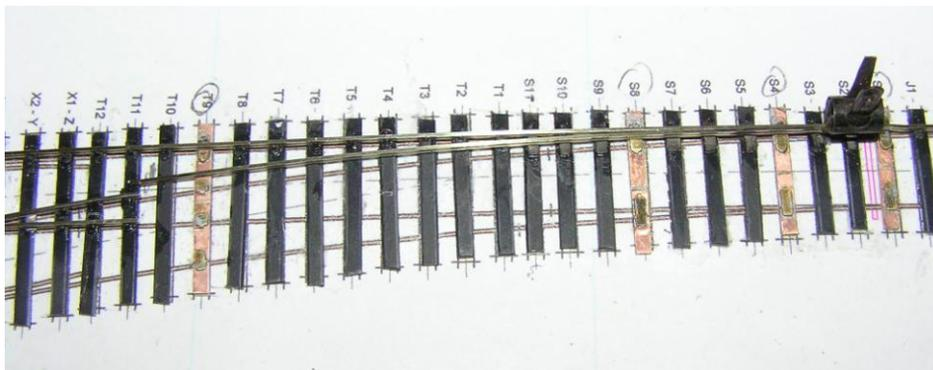

Fig 10 The curved switch rail held in position by the bulldog clip first to determine the correct length and then for fixing the chairs.
12. You can now fix the switch in position using the pre-set dividers to ensure that it follows the line of the template and that there is a smooth transition from the crossing rail to the switch. You may find it helps to use a miniature bulldog clip at the tip of the switch as you make the first fixings, fig 10. Start at the crossing end making sure that the transition from the crossing to the switch rail is smooth. Make sure that the end of the switch rail does not touch the crossing rail. The chairs nearest to the toe will probably need trimming slightly as there will not be enough room for two full chairs as the rails come closer together. On the prototype the chairs here would be on smaller square bases.
2. Cut the timbers to length using a craft knife. Work from both ends at the same time, towards the middle. Cut a long timber first then the piece left can be cut for the other end with very little wastage. Leave gaps for the PCB timbers. These should be at the 1st, 4th and 8th slide chairs and another close to the crossing end of the switch rails. See fig 10.
15. You can now fix the switch in position making sure that it follows the line of the template and that there is a smooth transition from the crossing rail to the switch. You may find it helps to use a miniature bulldog clip at the tip of the switch as you make the first fixings, fig 10. Once you have the rail in position solder to the PCB timber and then make the plastic joints. Make sure that the end of the switch rail does not touch the crossing rail. The chairs nearest to the toe will probably need trimming slightly as there will not be enough room for two full chairs as the rails come closer together. On the prototype the chairs here would be on smaller square bases.